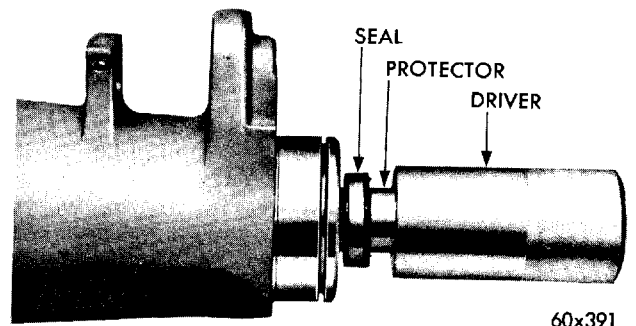

Fig. 22—Installing Output Shaft Oil Seal
(3) To install new seal, slide protector sleeve, Tool C-3768 over output shaft splines, then drive in seal (lip side facing in) with Tool C-3754 (Fig.22).
(4) Install the parking brake assembly and connect the propeller shaft.